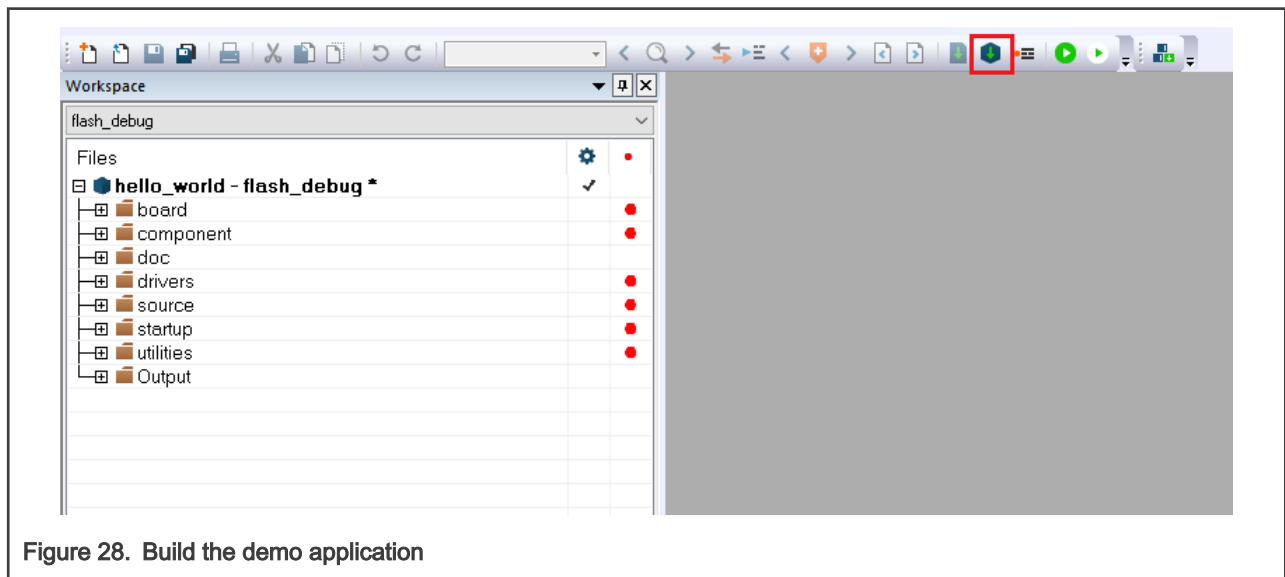

Figure 28. Build the demo application
3. To build the demo application, click **Make**, highlighted in red in Figure 28.